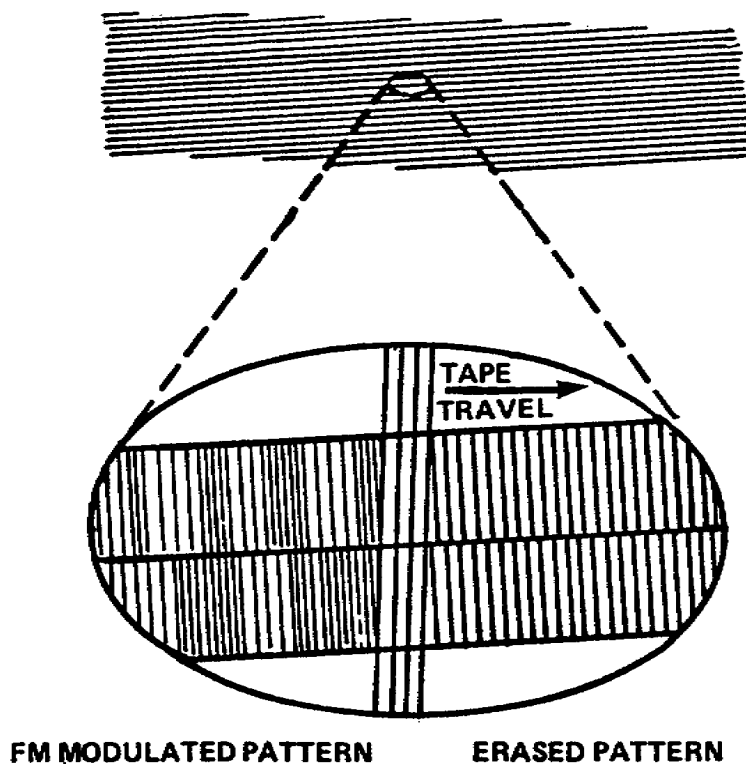

Figure 1-7. Segment of helical scan video tape as it is being erased
3. The 5.5 to 6.5mHz bias signal is used in a number of ways. The bias signal is applied to each of the erase heads for erasing the tape, i.e.; to rearrange the magnetic pattern of iron oxide particles to a neutral signal impression (fig 1-7).